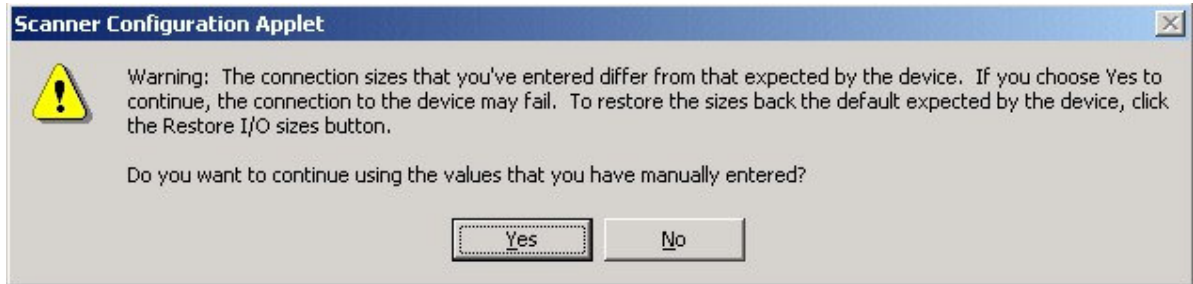

Figure 4
2. After setting the I/O size and selecting OK, you will get a warning message as shown in Figure 4. This means that the I/O size configured is different than what is designated in the device's EDS file. In the case of the Communicator whose I/O size will vary based on the amount of data transmitted by the serial interface, this warning should be ignored and the values accepted if correct.